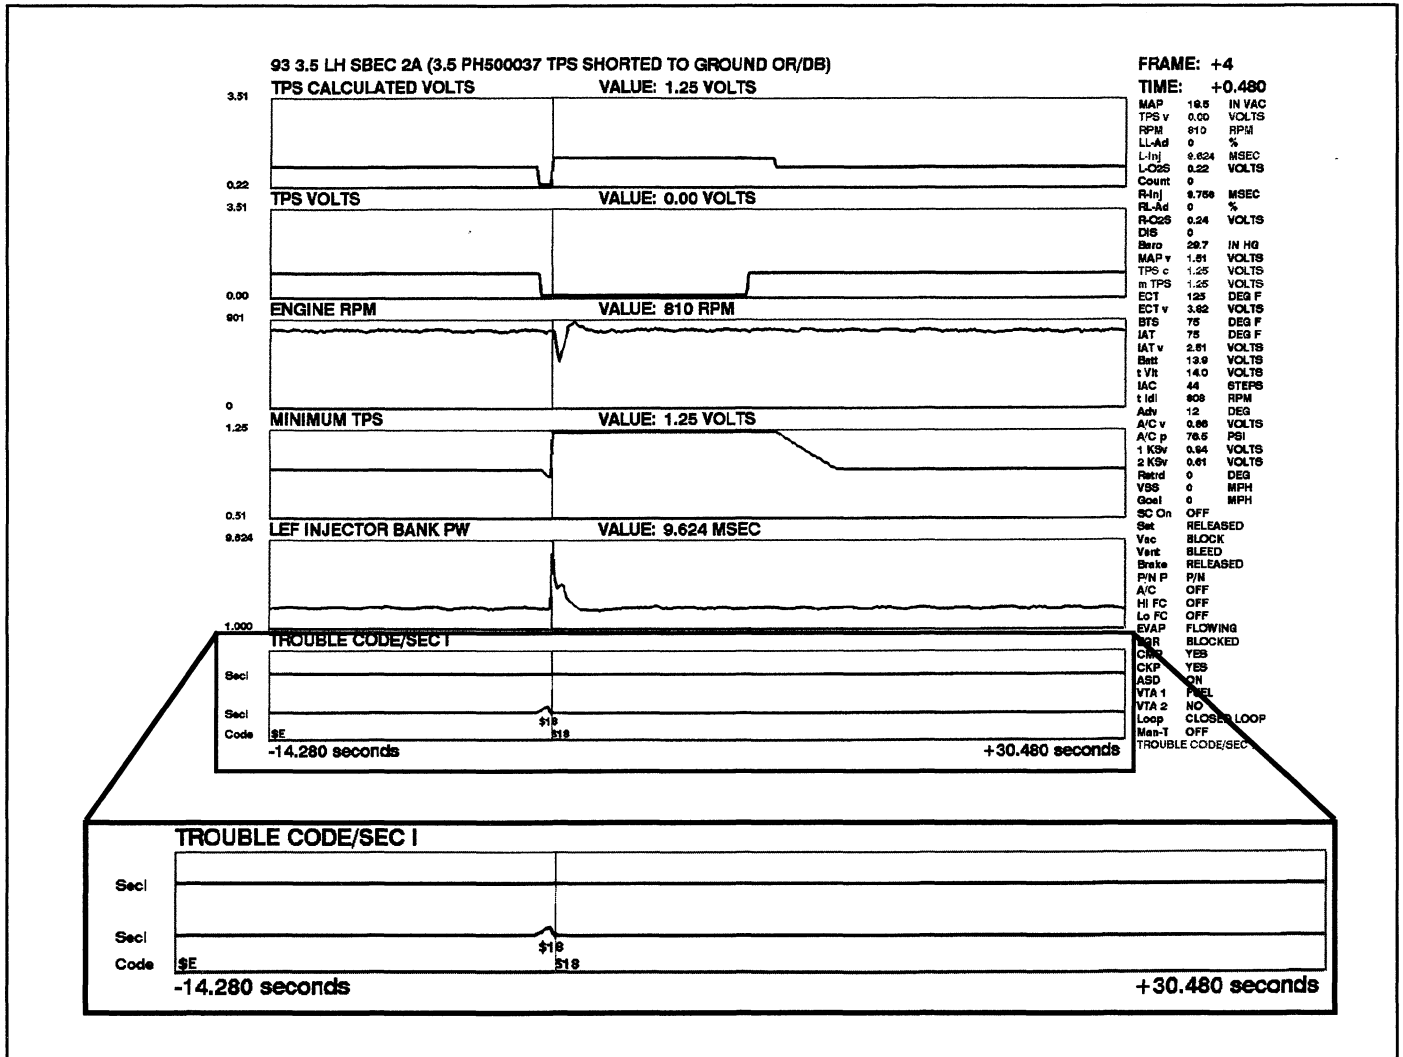

Fig. 19
- Trouble Codes & Secondary Indicators (Fig. 19)